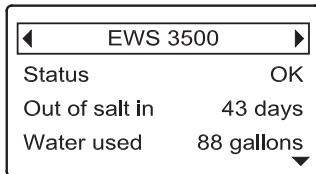

FIG. 74
1. Press the remote's LEFT (◀) or RIGHT (▶) buttons to manually advance to the status screen for the device to delete. The device name will show in the header. (See Figure 74).